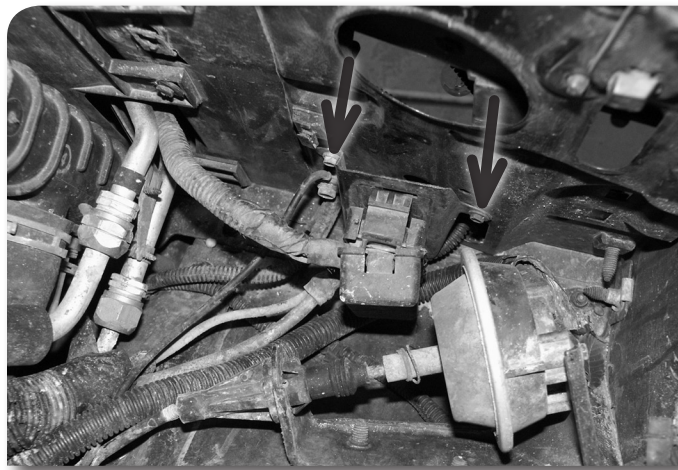

Figure 31
62. *4wd only*: NOTE: This modification is only necessary if the actuator will not bolt up to the original mounting holes as a result of the body lift. Measure and mark  $\frac{1}{2}$ " to the inside of the positive battery cable terminal box bracket mounting holes on the passenger's side core support **Figure 31**. Drill a  $\frac{1}{8}$ " hole at each of the marks.